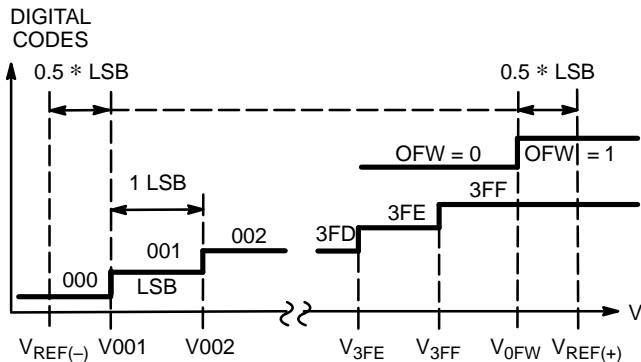
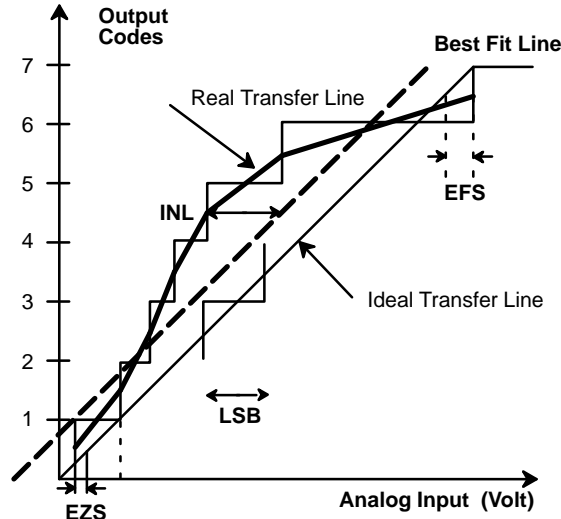

Figure 4. Ideal A/D Transfer Function
Figure 7. INL Error Calculation
- Tester measures code transition voltages by dithering the voltage of the analog input (V_{IN}). The difference between the measured code width and the ideal value ($V_{REF}/1024$) is the DNL error (see Figure 4.). The INL error is the maximum distance (in LSBs) from the best fit line to any transition voltage (see Figure 7.).
The transfer function for an ideal A/D converter is shown in Figure 4.
Figure 7. gives a visual definition of the INL error. The chart shows a 3-bit converter transfer curve with greatly exaggerated DNL errors to show the deviation of the real transfer curve from the ideal one.